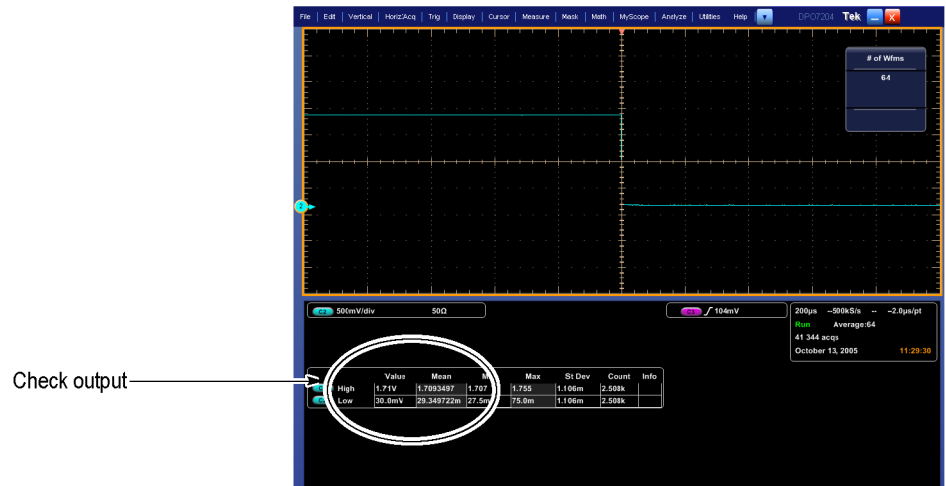

Figure 36: Measurement of trigger out limits
- c. *Check Aux Out output against limits:* (See Figure 36: Measurement of trigger out limits on page 267.)